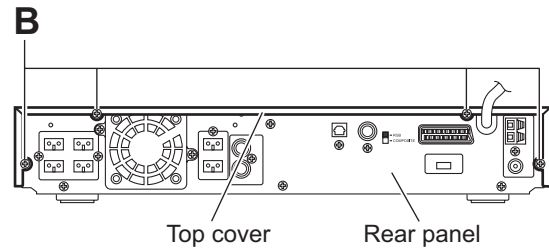

Fig.2
- (2) From the back side of the main body, remove the four screws **B** attaching the top cover. (See Fig.2)
- (3) Take out the top cover in the upward direction while extending the lower sections of the top cover in the direction of right and left.